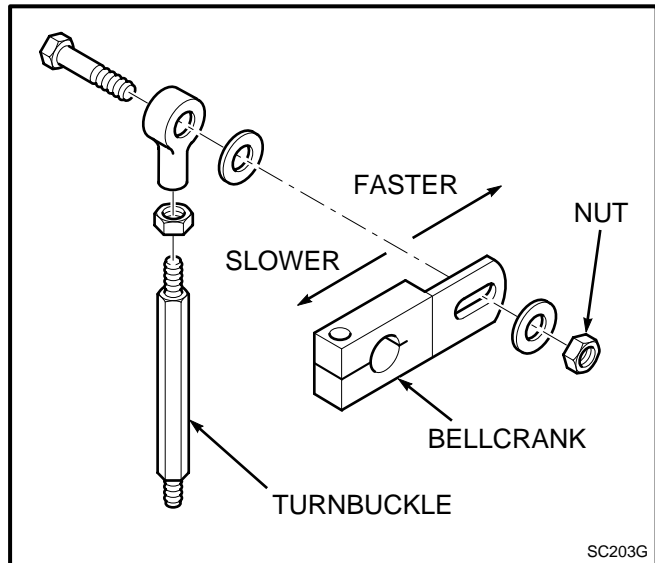

Figure 4
2. Locate the turnbuckle for LH pump under the operator seat in front of the hydraulic oil tank. (See Figure 4)
3. Loosen nut securing the turnbuckle to bellcrank. (See Figure 4)